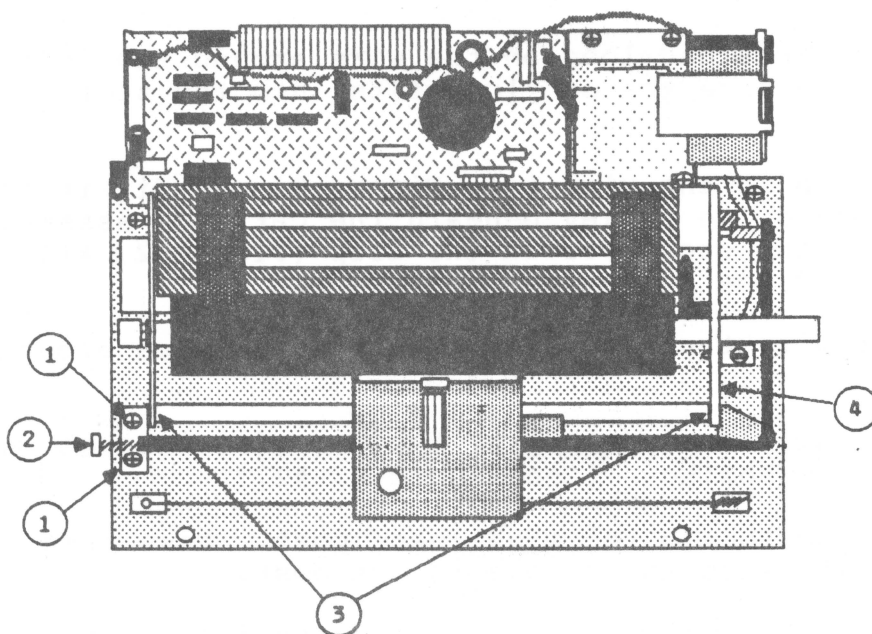

Figure 3
- a) Loosen the two screws that hold down the belt tension bracket (Figure 3, #1).
- b) Loosen the belt tension screw (Figure 3, #2) as far as possible without removing it.
4. Remove the screws from the ends of the carriage shaft (Figure 3, #3).
6. Lift the right end of the carriage shaft out of its socket. (You will have to push outward on the side plate. See Figure 3, #4.)